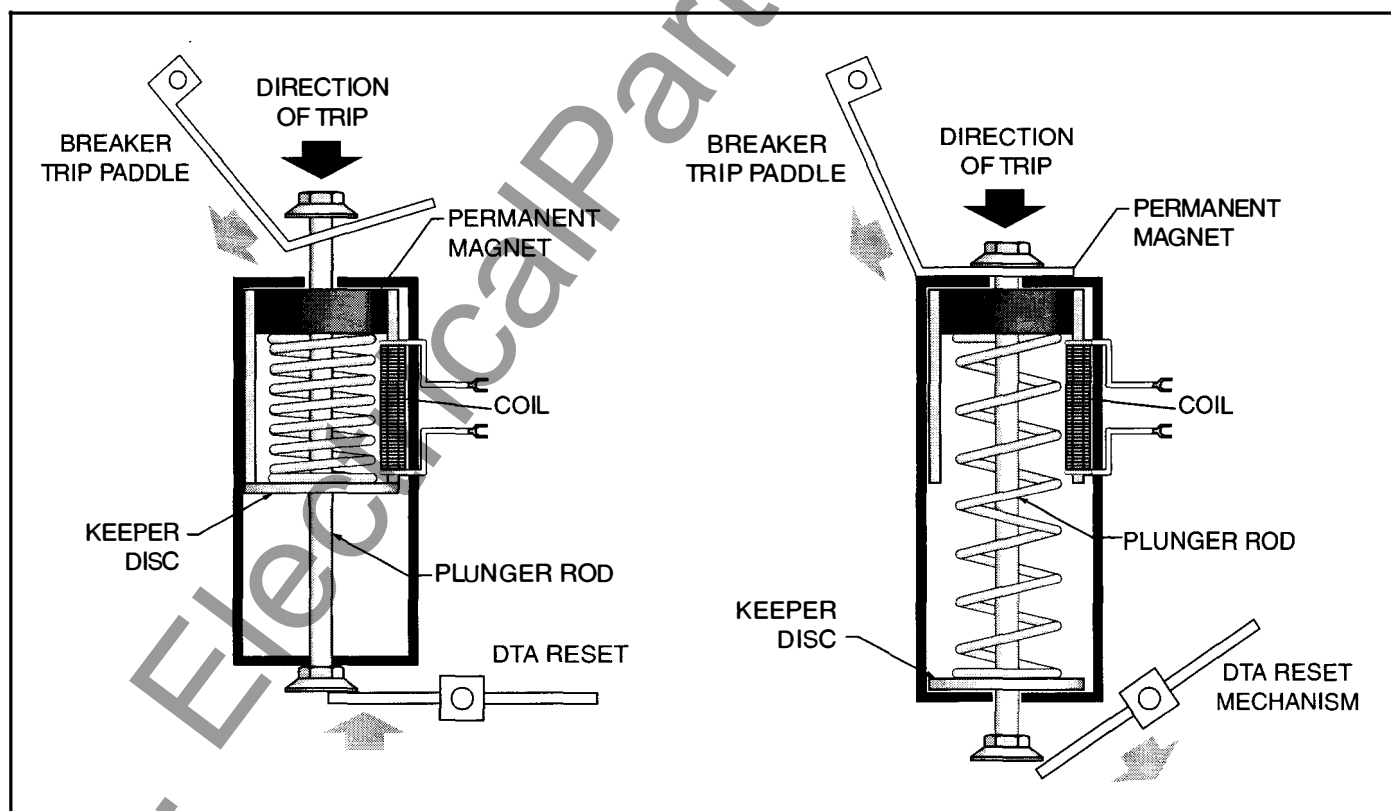

Fig. 3-6 Digitrip RMS Direct Trip Actuator (DTA)
3.7 Digitrip RMS Direct Trip Actuator (DTA) and Auxiliary Switch Kit (See Figure 3-6)